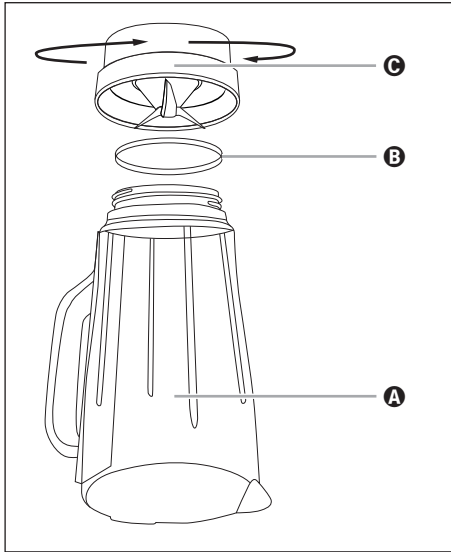

Fig. 4
- 2) Turn the appliance upside down and turn the plastic part ③ of the blender ③ anticlockwise so that it can be detached from the glass part ① of the blender attachment ③ (see fig. 4).
- 4) You can carefully remove the sealing ring ② from the plastic part ③ if necessary. Clean in mild soapy water and rinse with clear water.
- 6) If necessary, reinsert the sealing ring ② into the plastic part ③ correctly. Then place the plastic part ③ of the blender ③ back on the glass part ① of the blender ③ and turn the plastic part ③ clockwise.